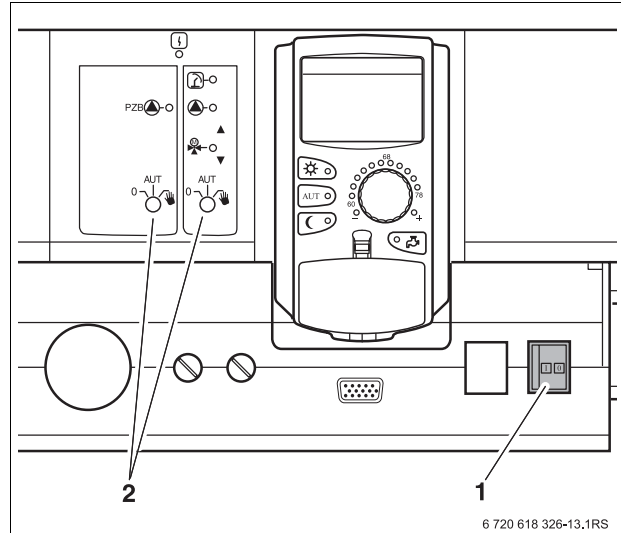

Fig. 8 On/Off switch
- Check that the control panel ON/OFF switch (→ Fig. 8, [1]) and the manual switches on the installed modules (→ Fig. 8, [2]) are set to "I" and "AUT".
- Switch the control panel ON by setting the ON/OFF switch to "I" (→ Fig. 8, [1]).
- Switch the control panel OFF by setting the ON/OFF switch to "0" (→ Fig. 8, [1]).